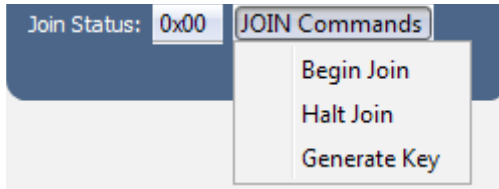

Figure 20: The Master Development System Software Join Commands
- The Join Commands button sets the Join Process Control options in the CMD register. Clicking on the button opens a menu of the Join commands. Clicking on one of the commands triggers that operation (Figure 20).